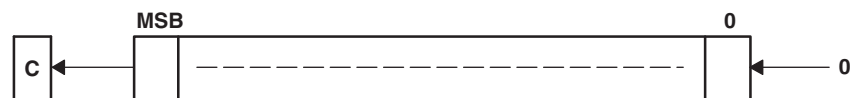

Figure 5-45. Destination Operand-Arithmetic Shift Left
| Description | The destination operand is shifted left one position as shown in Figure 5-45 . The MSB is shifted into the carry bit (C) and the LSB is filled with 0. The RLAX instruction acts as a signed multiplication by 2. |